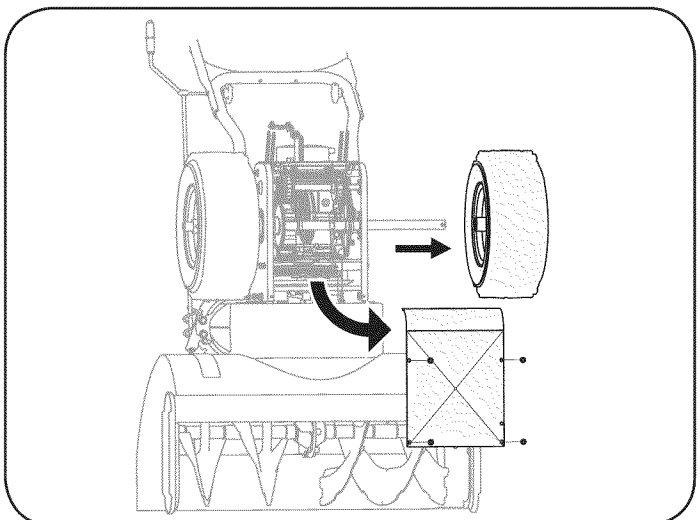

Figure 37
3. Remove screws from the frame cover underneath the snow thrower (refer to Figure 37). Remove the right wheel from the axle.